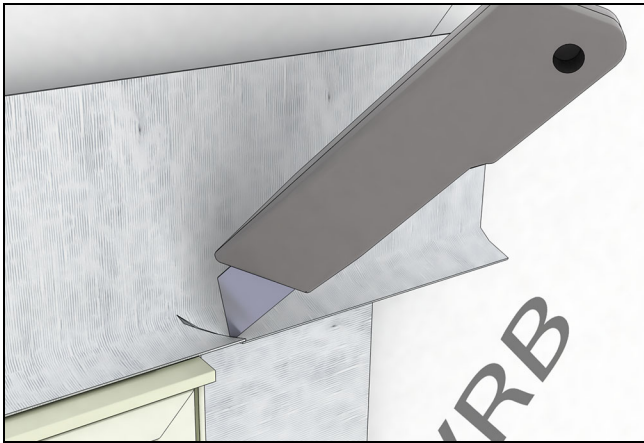
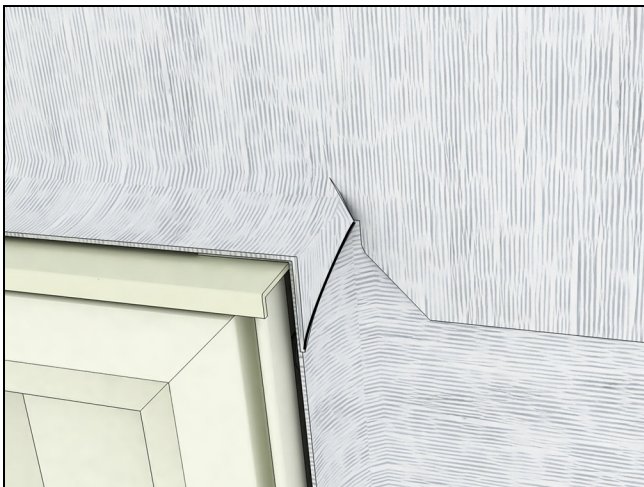

Figure 12
Figure 13
6. Install another layer of adhesive membrane lapping onto the head jamb of the unit and over the sheathing. The membrane flashing at the head jamb should extend and cover the flashing previously installed at the jambs. Make relief cuts and fold down so that it wraps around the jamb See Figure 12 and Figure 13.